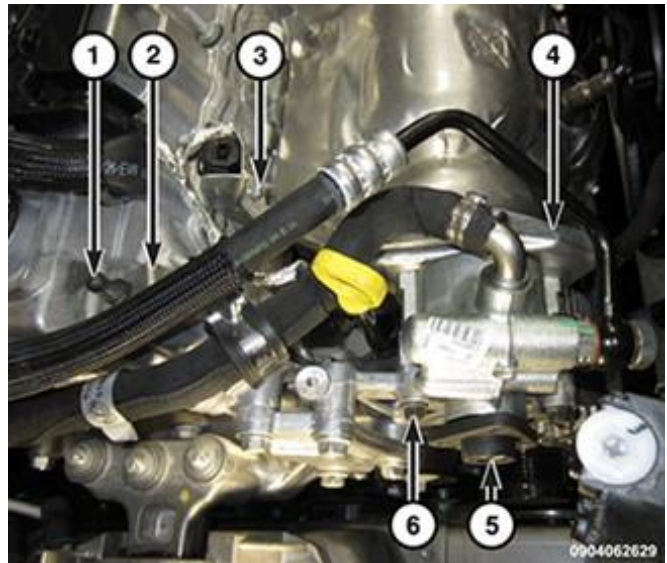

Figure 12 – Power Steering Pump
19. **(VM) Ram ProMaster City Only:** Remove the nut (3) from the power steering pump support bracket (4) (Figure 12).
20. **(VM) Ram ProMaster City Only:** Remove the three bolts (6) and reposition the power steering pump (5) (Figure 12).
42. **(VM) Ram ProMaster City Only:** Position the power steering pump (5) to the support bracket then install the three bolts (6). Tighten the bolts to 44 N·m (32 ft. lbs.) (Figure 12).
43. **(VM) Ram ProMaster City Only:** Install the nut (3) to the power steering pump support bracket (4) and tighten the nut to 10 N·m (89 in. lbs.) (Figure 12).